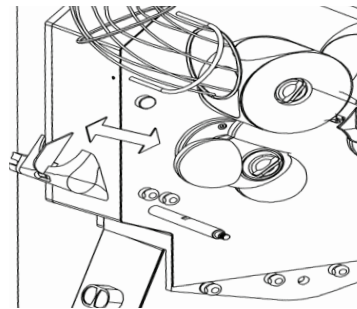

Figure 11
- 6- Remove the right and left peelers. **(Figure 11).**